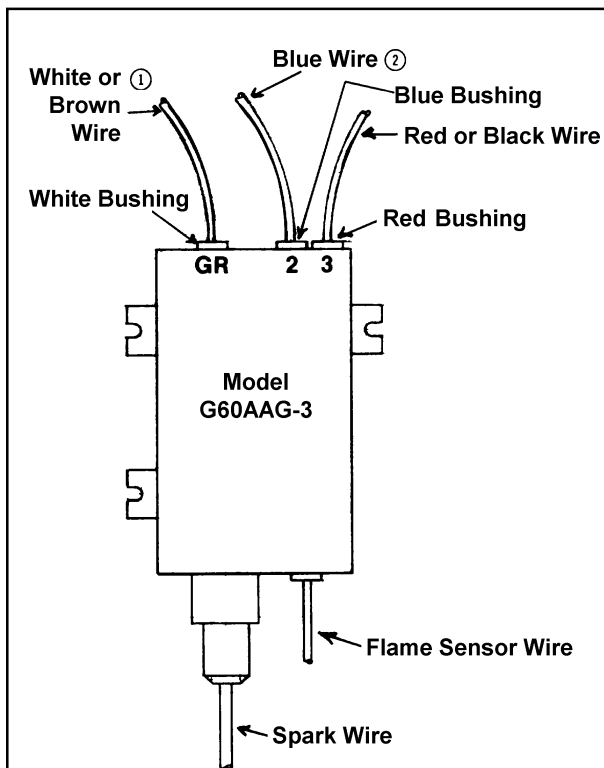

Figure 1 - Wiring of Ignition Controller, Model G60AAG-3
- Refer to pictorial diagrams in Figures 1 and 2. Terminal numbers on the new controller are identical to those on the original controller. Using the terminal numbers and wire markings, make connections at Terminal 1, 2, and 3.